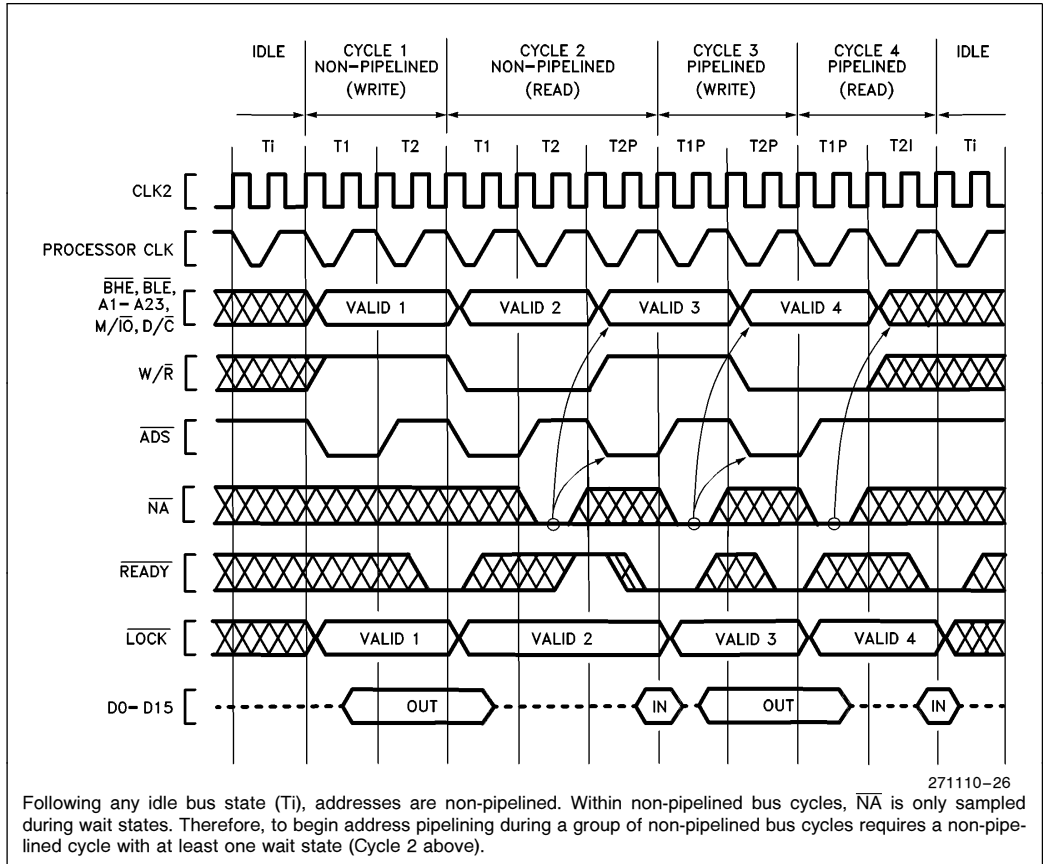

Figure 5.9. Transitioning to Pipelined Address During Burst of Bus Cycles
Once a bus cycle is in progress and the current address has been valid for at least one entire bus state, the \overline{NA} input is sampled at the end of every phase one until the bus cycle is acknowledged. During non-pipelined bus cycles \overline{NA} is sampled at the end of phase one in every T2. An example is Cycle 2 in Figure 5.9, during which \overline{NA} is sampled at the end of phase one of every T2 (it was asserted once during the first T2 and has no further effect during that bus cycle).
1. The next address may appear as early as the bus state after \overline{NA} was sampled active (see Figures 5.9 or 5.10). In that case, state T2P is entered immediately. However, when there is not an internal bus request already pending, the next address will not be available immediately after \overline{NA} is asserted and T2I is entered instead of T2P (see Fig-
2. Any address which is validated by a pulse on the ADS output will remain stable on the address pins for at least two processor clock periods. The i386 SX Microprocessor cannot produce a new address more frequently than every two processor clock periods (see Figures 5.9, 5.10, and 5.11).
Examples of transition bus cycles are Figure 5.10 Cycle 1 and Figure 5.9 Cycle 2. Figure 5.10 shows transition during the very first cycle after an idle bus state, which is the fastest possible transition into address pipelining. Figure 5.9 Cycle 2 shows a transition cycle occurring during a burst of bus cycles. In any case, a transition cycle is the same whenever it occurs: it consists at least of $T1$, $T2$ (\overline{NA} is asserted at that time), and $T2P$ (provided the i386 SX Microprocessor has an internal bus request already pending, which it almost always has). $T2P$ states are repeated if wait states are added to the cycle.
Once a pipelined bus cycle is in progress, pipelined timing is maintained for the next cycle by asserting \overline{NA} and detecting that the i386 SX Microprocessor enters $T2P$ during the current bus cycle. The current bus cycle must end in state $T2P$ for pipelining to be maintained in the next cycle. $T2P$ is identified by the assertion of \overline{ADS} . Figures 5.9 and 5.10 however, each show pipelining ending after Cycle 4 because Cycle 4 ends in $T2I$. This indicates the i386 SX Microprocessor didn't have an internal bus request prior to the acknowledgement of Cycle 4. If a cycle ends with a $T2$ or $T2I$, the next cycle will not be pipelined.